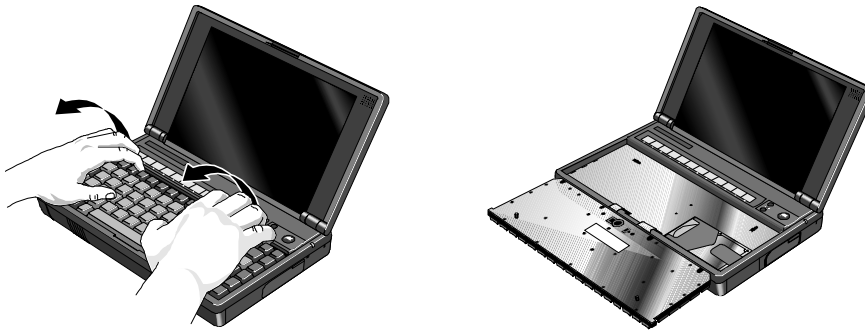

Figure 20 - Folding the Keyboard Open
1. Turn the OmniBook over and open the cover. Grasp the top edge of the Keyboard and fold out gently. Note – the Keyboard Flex Cables do not need to be disconnected. See Figure 20 on page 56.